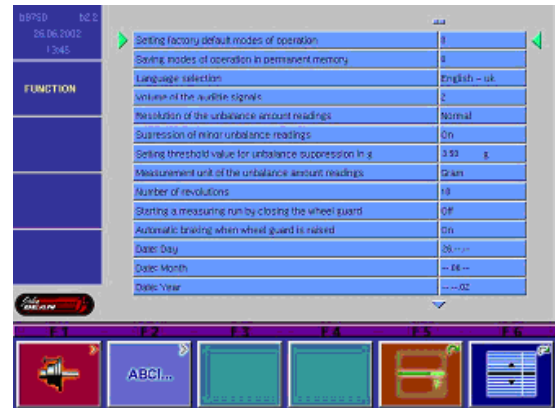

Figure 36
2. Press and release the **“Calibration”** key (F1). Fig 36.